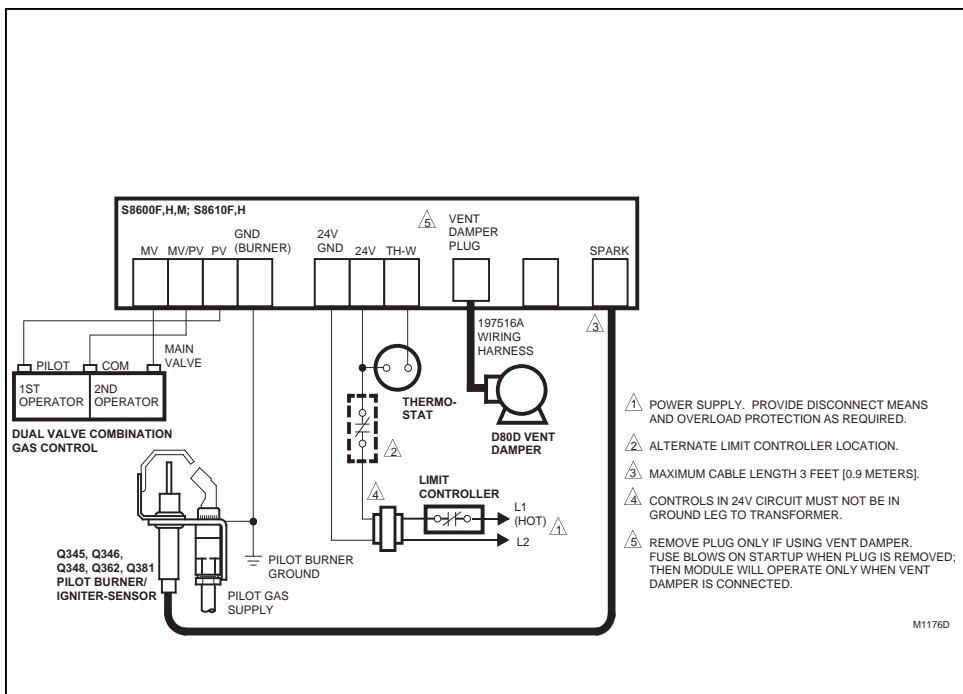

Fig. 2—S8600F,H,M; S8610F,H with a vent damper plug in a heating system with an atmospheric burner and a D800 vent damper.
- Fig. 2 shows S8600F,H,M; S8610F,H with vent damper plug in a heating only atmospheric burner system with D80D vent damper. *Never use a vent damper in an LP gas system or in a fan-assisted combustion system.*